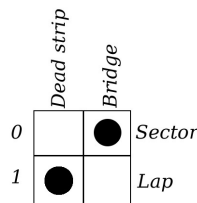

Figure 11: Ds bridge sector sensor, dead strip lap counter sensor.
In order that the *Track Interface* interprets the DS bridge as sector sensor and the dead strip as lap counter sensor, the double switch (5) must be set as shown in figure 11.